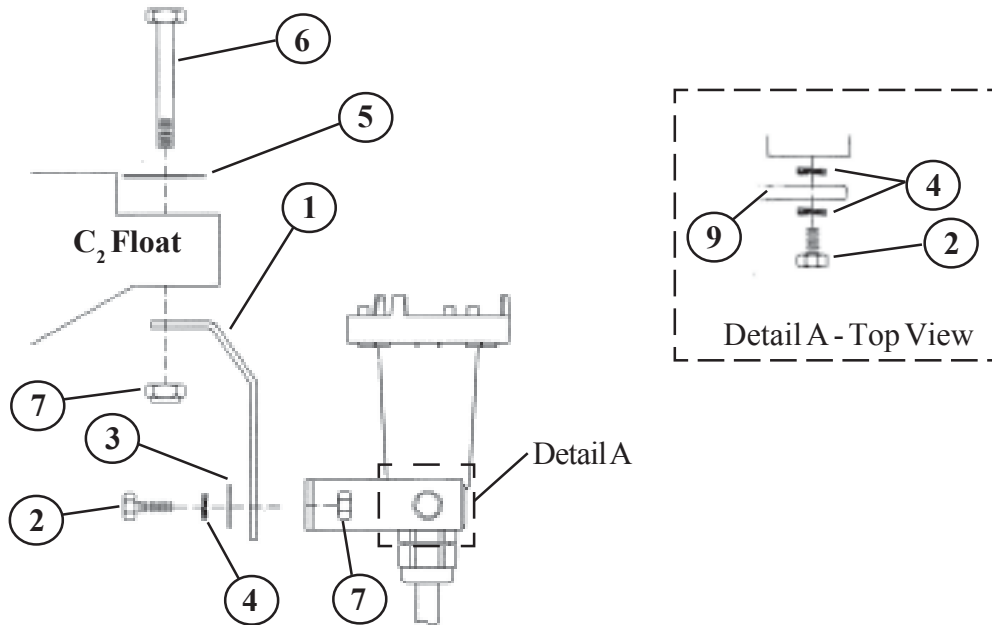

Figure 5
A. Refer to the Figure 5 and table below. Check that all hardware and parts are included with each kit.
B. The Concept₂ float has twelve 1/2" holes in the outer rim of the float. The light fixtures are designed to be mounted in any of these holes. Each fixture is mounted with the bracket on the underside of the float. Secure each bracket (Item #1) to the float using items 5, 6, and 7. Install it with the float between the flat washer and bracket. Snug nut, overtightening will crush the float.
C. The "L" brackets will already be mounted to the light fixtures at the factory. Mount each light fixture to a bracket using items 2, 3, 4, and 7 as shown in Figure 5. **For 65W lights**, adjust each fixture by loosening the bolt (Item #2) and sliding it in the slot of the bracket so that the light is **fully submerged underwater** during operation to prevent overheating (as close to the surface of the water as possible in order to maximize light output). It may be necessary to move the light to the other slot depending on the HP of the unit. **For 20W lights**, adjust each fixture so that the top of it is out of the water in order to maximize light output (overheating is not a concern with the 20W lights).